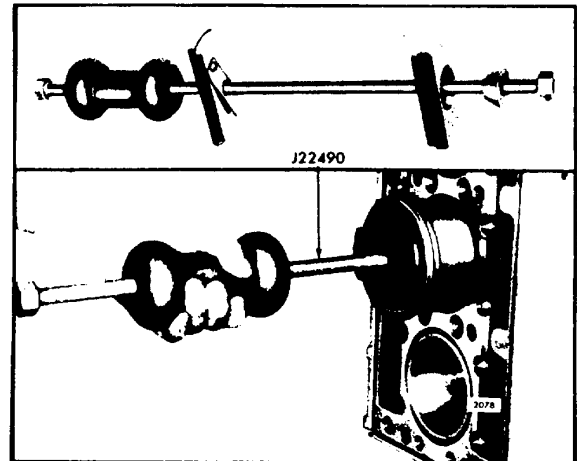

Fig. 2. - Removing Cylinder Liner
The connecting rod bearing shells are of the replaceable precision type and consist of an upper shell seated in the connecting rod and a lower shell seated in the connecting rod cap (Fig. 2, Section 1.6.1). The bearing shells are located by and prevented from end wise or radial movement by a tang at the parting line at one end of each shell. The connecting rod bearing shells used in the engines incorporate a relief groove in each end of the shell to provide clearance for the connecting rod bolts.
2. If the engine has been in service for an extended period, considerable effort may be required to loosen the liner from its position. When this condition exists, remove the liner with tool set J 22490 (Fig. 2) as follows: